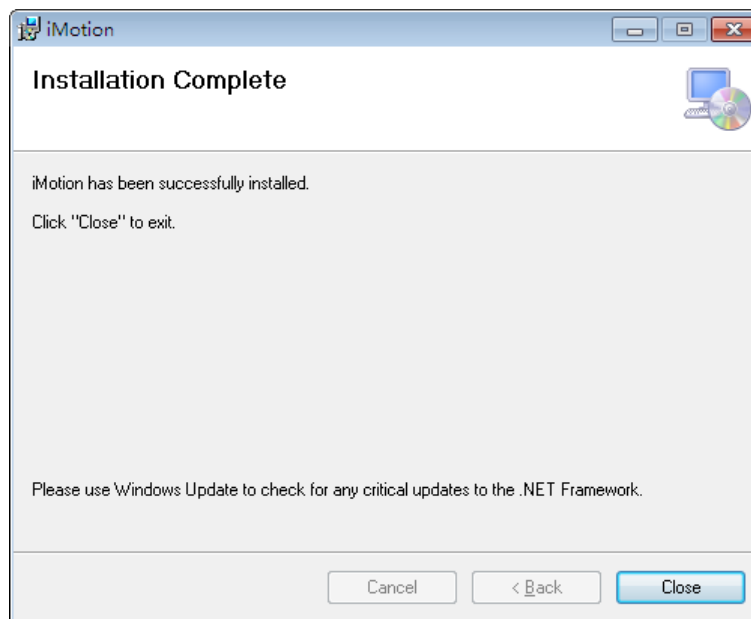

Fig. 1-6 Installation complete
- 8) As shown in Fig. 1-6, click [Close] to complete installation of *iMotion* software.